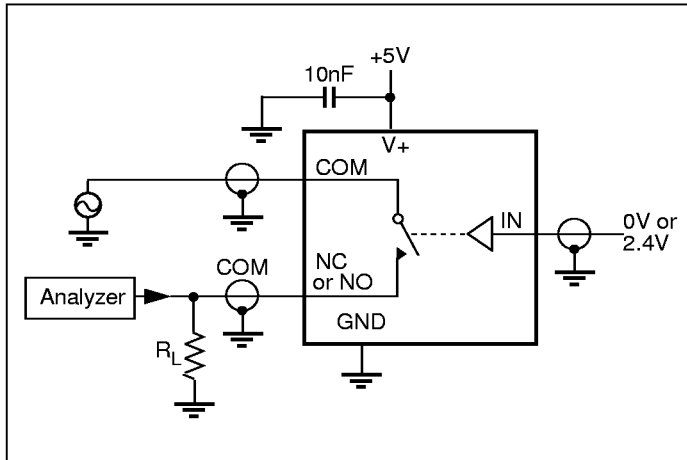

Figure 5. Off Isolation
- Off Isolation = $20 \log_{10} [V_{COM} / (V_{NC\text{ or } V_{NO}})]$. See figure 5.